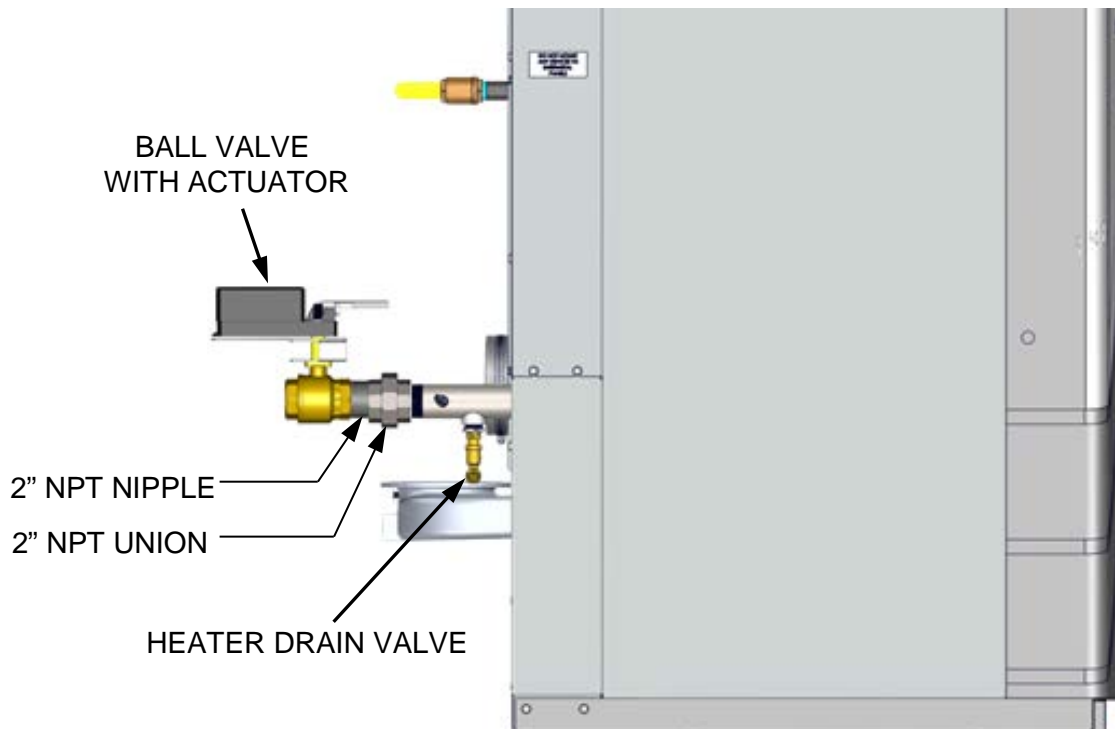

Figure 2-3b. Innovation Water Heater Equipped With Sequencing Valve
If the Innovation Water Heater was ordered for use with the Water Heater Management (WHM) system and the actuator-controlled ball valve is not already installed on the unit, as shown in Figure 2-3b, it will be packed separately within the shipping container.
3. Ensure that the valve is positioned with the actuator enclosure position as shown in Figure 2-3b.